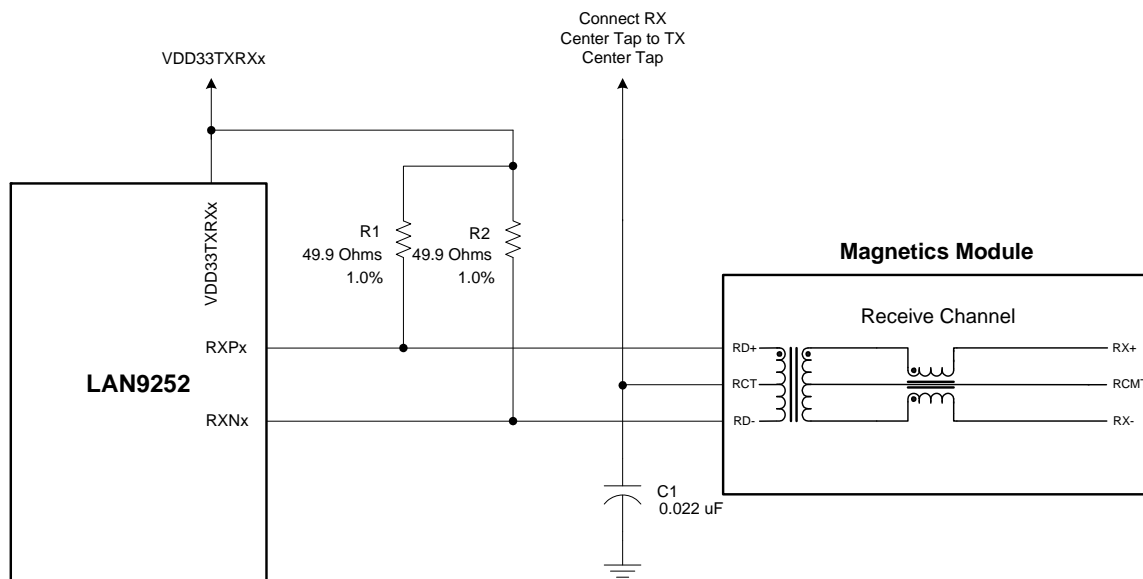

Figure 2 - Receive Channel Connections and Terminations
6. For Port A, Receive Channel connection and termination details, refer to Figure 2.
6. For Port B, Receive Channel connection and termination details, refer to Figure 2.
6. For Port A, Fiber Receive Channel connection details, refer to Figure 2.
9. **Architecture Note:** 100BASE-FX is a version of Fast Ethernet over optical fiber. It uses a 1300 nm near-infrared (NIR) light wavelength transmitted via two strands of optical fiber, one for receive(RX) and the other for transmit(TX). Maximum length is 412 metres (1,350 ft) for half-duplex connections (to ensure collisions are detected), and 2 kilometres (6,600 ft) for full-duplex over multi-mode optical fiber. EtherCAT® uses full-duplex mode. 100BASE-FX uses the same 4B5B encoding and NRZI line code that 100BASE-TX does. 100BASE-FX should use SC, ST, LC, MTRJ or MIC connectors with SC being the preferred option.
6. For Port B, Fiber Receive Channel connection details, refer to Figure 2.